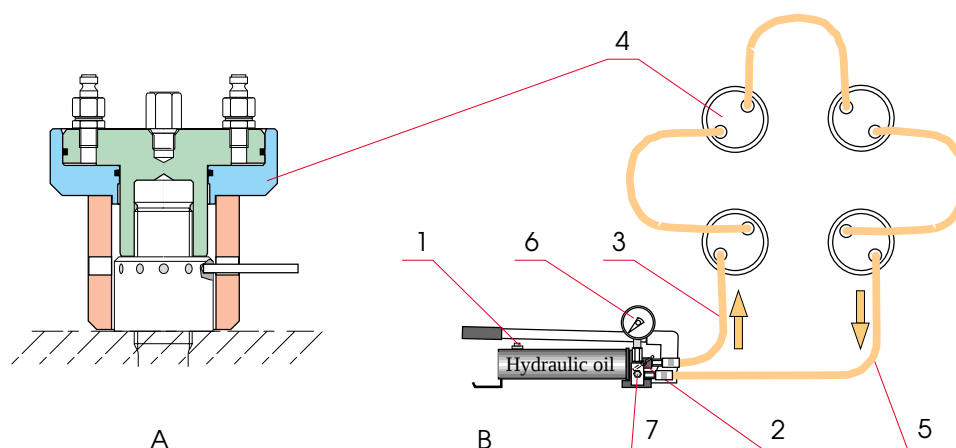

Fig 07-13
- During the filling of the container of the high pressure pump it is recommendable to couple the set according to scheme B, Fig 07-13. Before filling, open the release valve (2) and empty the cylinders (4) by pressing the piston and cylinder together. After that, the container can be filled through the filling plug (1).
- 1 Attach distance sleeves and hydraulic cylinders** according to Fig 07-13 A. Screw on cylinders by hand.
- 2 Connect the hoses to the pump and cylinders** according to scheme Fig 07-13 B. Open the release valve (2) and screw cylinders in clockwise direction to expel possible oil.